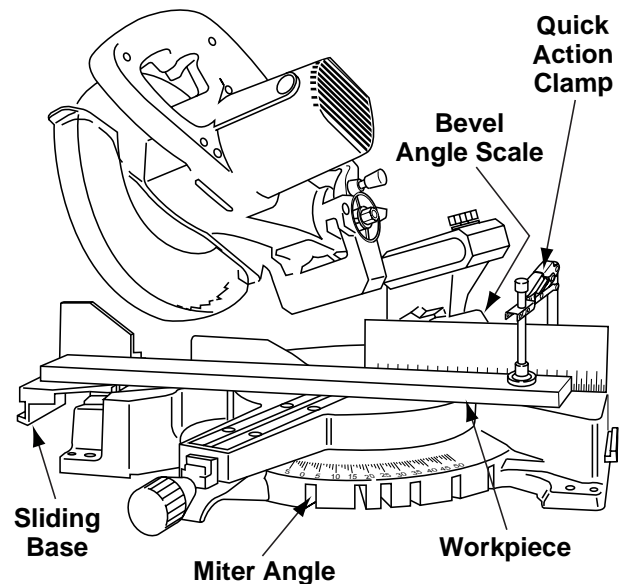

Figure 31. Compound Cut
1. Extend the sliding base/fence when making compound cuts that are mitered to the left (see Sliding Base/Fence Extension on page 22). Select the desired miter and bevel angles (Figure 31). (See Miter Cut and Bevel Cut on page 24.)